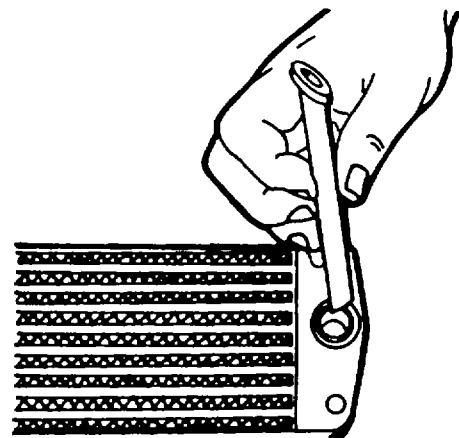

Figure 5-39. Installing Oil Pipe into Oil Cooler
54. Place a new rubber O-seal, coated with grease, in the joint face of the oil cooler and insert the plain end of the oil pipe in the oil cooler (figure 5-39).